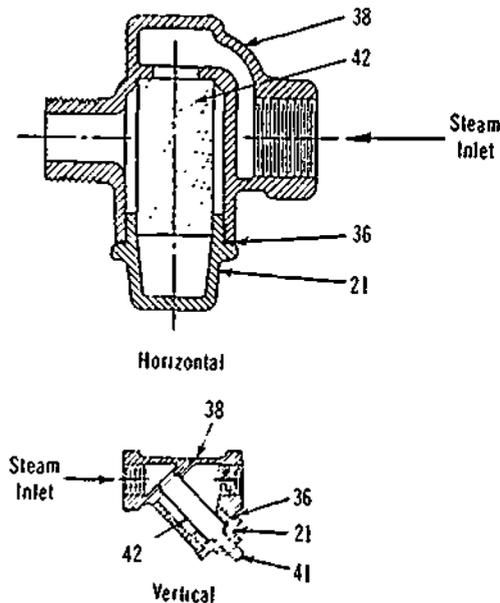

Figure 31-13. Steam Strainers
103. *Steam Strainers.* (Refer to Figure 31-13 in the accompanying appendix.) The steam strainer is installed on the incoming steam-supply line to remove any foreign materials in the steam supply. It has a strainer (42) that can be removed and cleaned.